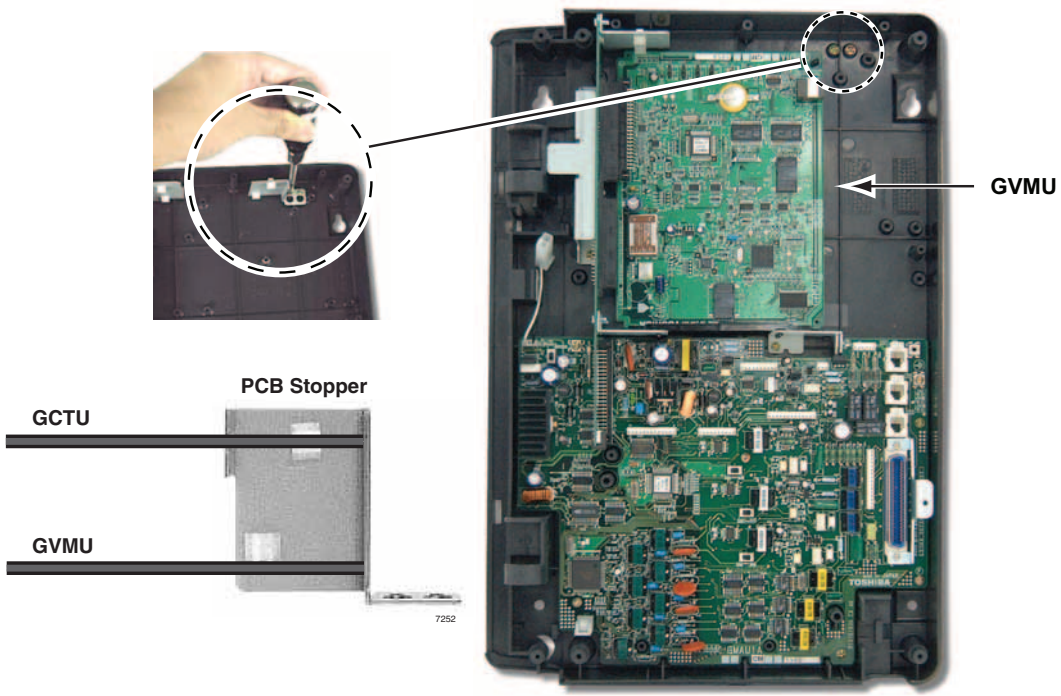
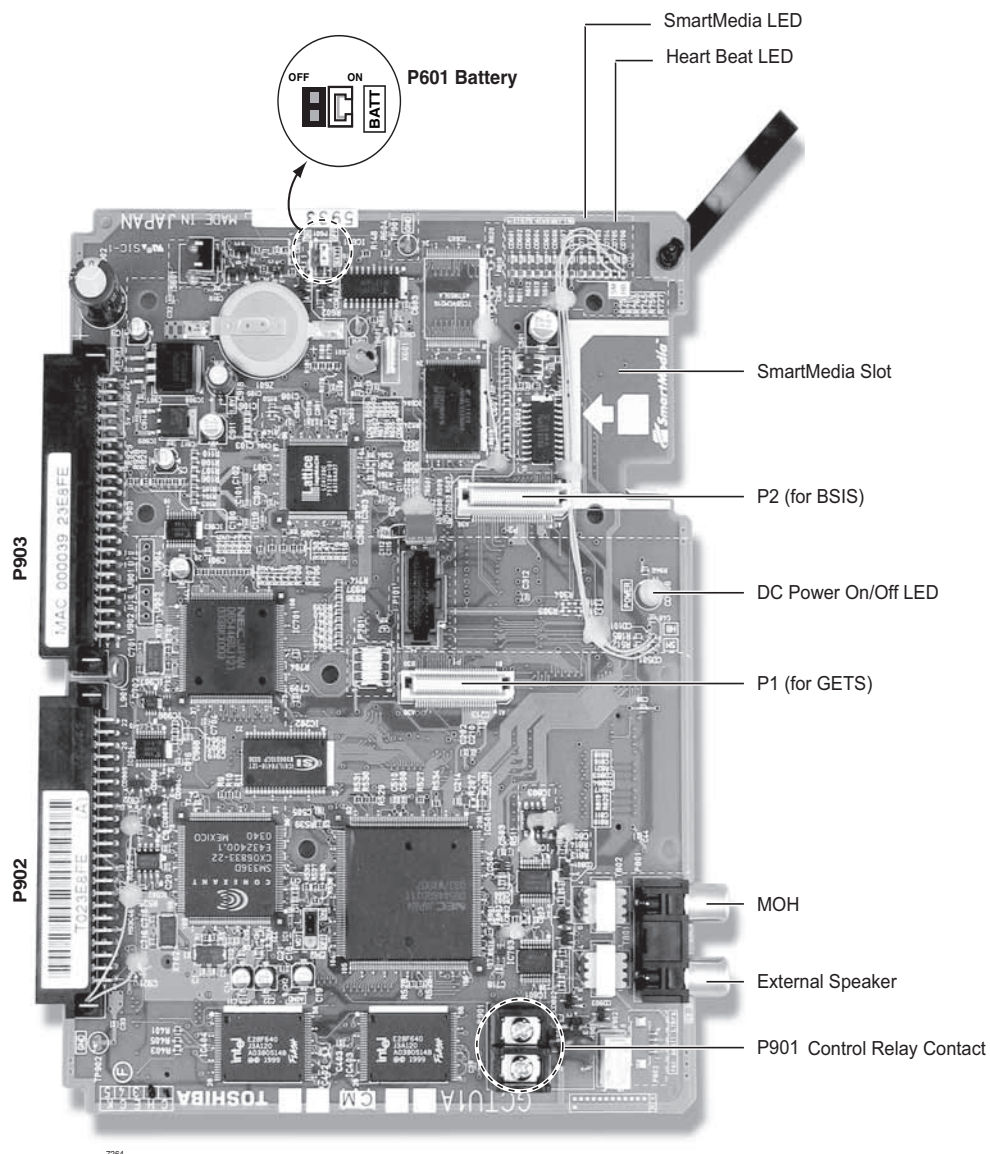

Figure 1-8 GVMU/GCTU PCB Stopper
Figure 1-10 GCTU PCB
1. In the CTX28 cabinet, remove the two screws and the PCB stopper (Figure 1-8).
4. Install the GVMU into the lower slot of the GMAS (sub-motherboard) (see Figure 1-8).
1. Skip this step if you have installed a Voice Mail PCB and already removed the PCB stopper. If you have not done this, then in the CTX28 cabinet, remove the two screws and the PCB stopper (see Figure 1-8).
2. Set the P601 battery jumper to ON (see Figure 1-10) and insert the GCTU (shipped with the cabinet) in the upper slot of the GMAS sub-motherboard (see Figure 1-6). Place it next to the guide rail of the PCB stopper (see Figure 1-8).